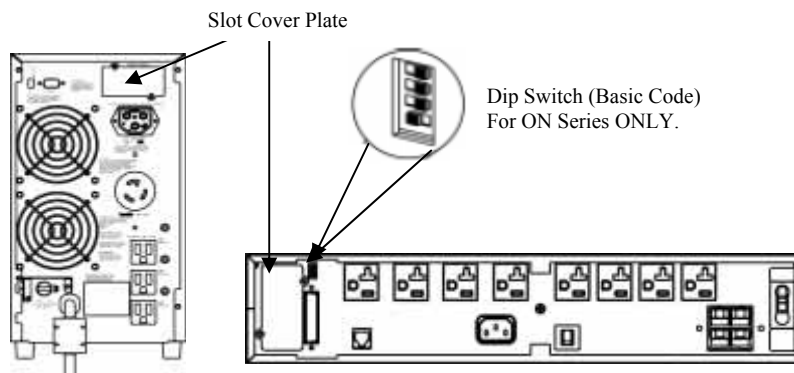

Figure 1: Typical Locations of Slot Cover Plates
5. For ON Series Universal-Mount UPS only, set the dip switch on the back of the unit to “BASIC” mode, or to the “ON” position. See Figure 1.